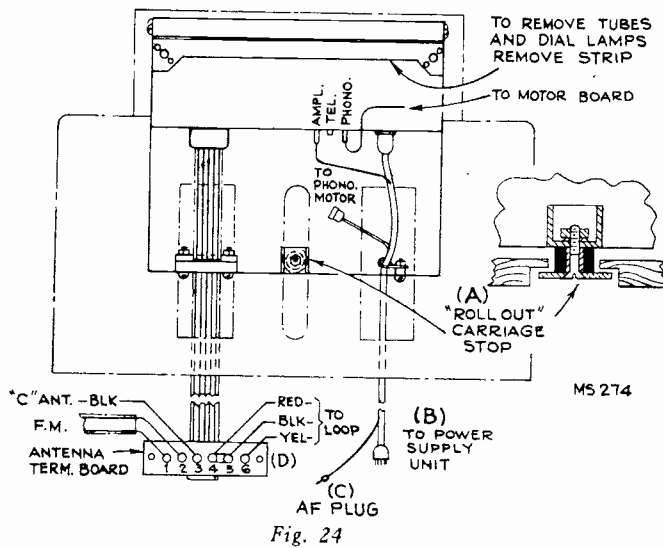

Fig. 24
4. Remove tube strip (Fig. 24).
1. Remove "Roll-out" stop (A) (Fig. 24).
2. Pull out power cable plug (B) (Fig. 24) at power supply, also loosen cable clamps.
3. Remove audio plug (C) (Fig. 24).
4. Remove antenna wires and antenna terminal strip (D) (Fig. 24).
3. Pull AC and phono plugs (Fig. 24).